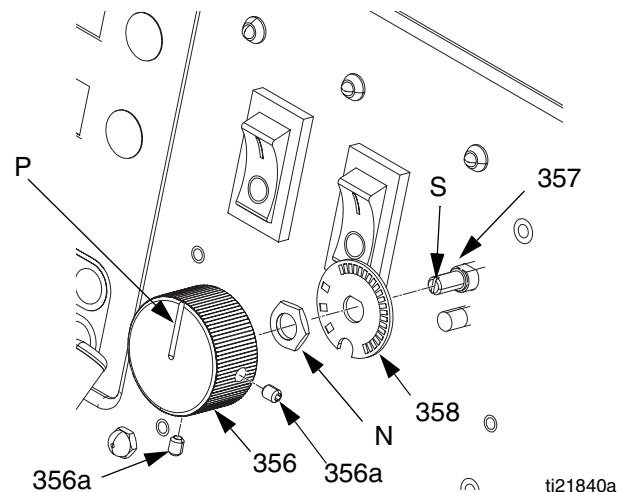

FIG. 9: Function Knob/Potentiometer
4. See FIG. 9. Remove two setscrews (356a) and pull function knob (356) off potentiometer (357) shaft.
5. Remove nut (N, part of 357) and detent plate (358).
6. Install new potentiometer (357) in reverse order. Position potentiometer so slot (S) is horizontal. Position knob (356) so pointer (P) faces up. Install knob on shaft so slot (S) engages alignment pin in knob. Push knob onto shaft against detent spring before tightening setscrews (356a).